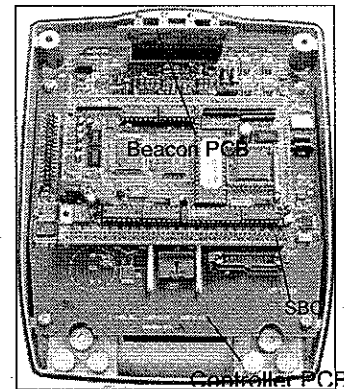

Figure 5-9: Beacon PCB
3. Remove the Beacon PCB (see Figure 5-9).
1. Install the Beacon PCB on top of the Controller PCB (see Figure 5-9).